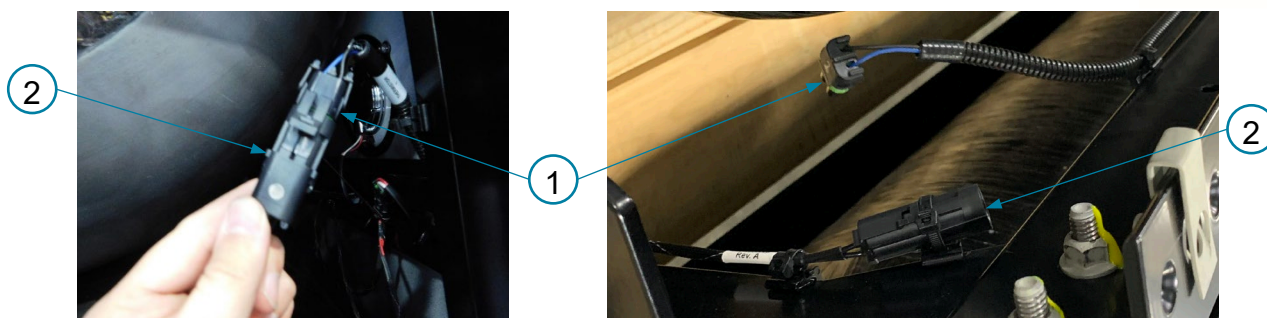

**Figure 7. Blue iQ® chassis harness connector (1), thermistor connector (2).**
5. Disconnect thermistor from Blue iQ® chassis harness. *Figure 7*
6. Use a multimeter and test probe kit to measure resistance across Pin A and Pin B of the thermistor connector. *Figure 7*
1. *If not already unplugged:* Unplug Blue iQ® chassis harness from thermistor to be removed. *Figure 7*
2. *Behind the Cab (BTC), tailgate, Roof Mount (RM), and Side Mount (SM) Blue iQ® systems:* If thermistors were secured with pop rivets, remove pop-rivet securing thermistor to fuel system frame as follows: